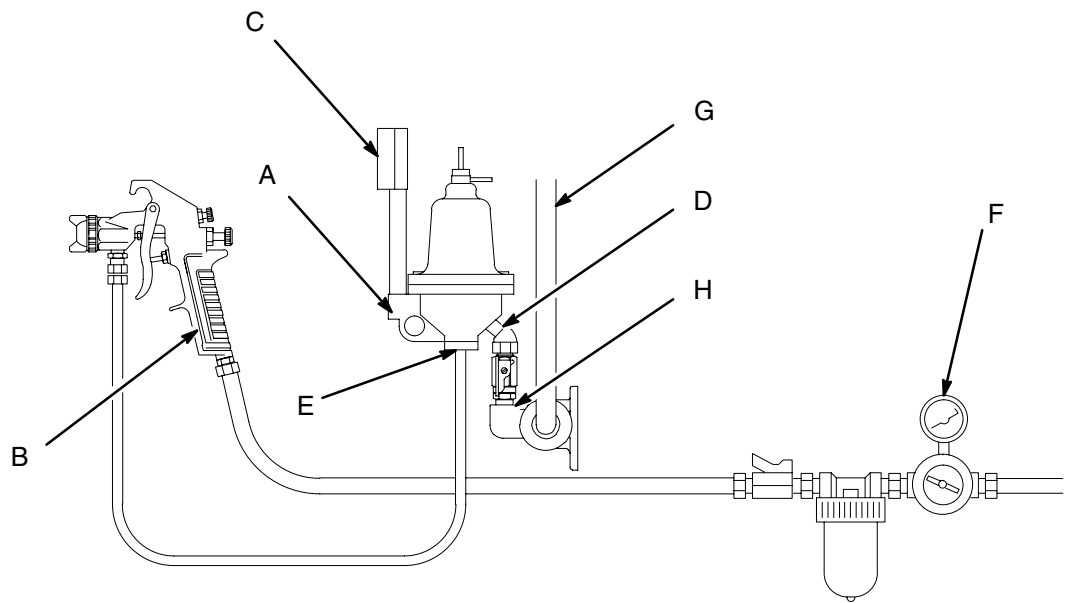

Fig. 1
- Install regulator (A) in fluid supply line as close as possible to spray gun or dispensing valve (B) for easy operator control.
- Mount the regulator in an upright position so that the gauge (C) can be easily read.
- If turning the gauge, reapply sealer to the threads, and use a wrench on the inlet stud to turn gauge. Regulator inlet (D) is 3/8 npsm (f) swivel and outlet (E) is 3/8 npsm (m) rigid.
- Connect a fluid hose to regulator outlet (E) and spray gun. Connect an air atomizing hose to the spray gun and air regulator (F) See Fig. 1.
- To mount the regulator in a circulating system supply line (G), install an accessory outlet (H). One outlet (H) and air regulator (F) are required for each spray gun. The accessory outlet (Part No. 204819) may be ordered separately.